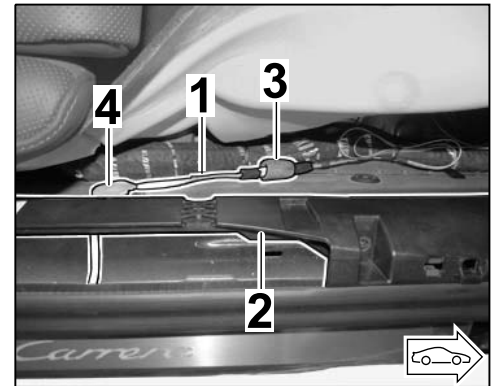

Figure 19
Route flat conductor path ⇒ *Figure 19 -1-*
behind the door sill support ⇒ *Figure 19 -2-*.
3.5.1 Connect plug connection ⇒ *Figure 19 -3-*.
3.5.2 Clean the adhesive pad bonding area on the body ⇒ *Figure 19 -4-* using commercially available cleaning agents to remove any dust and grease.